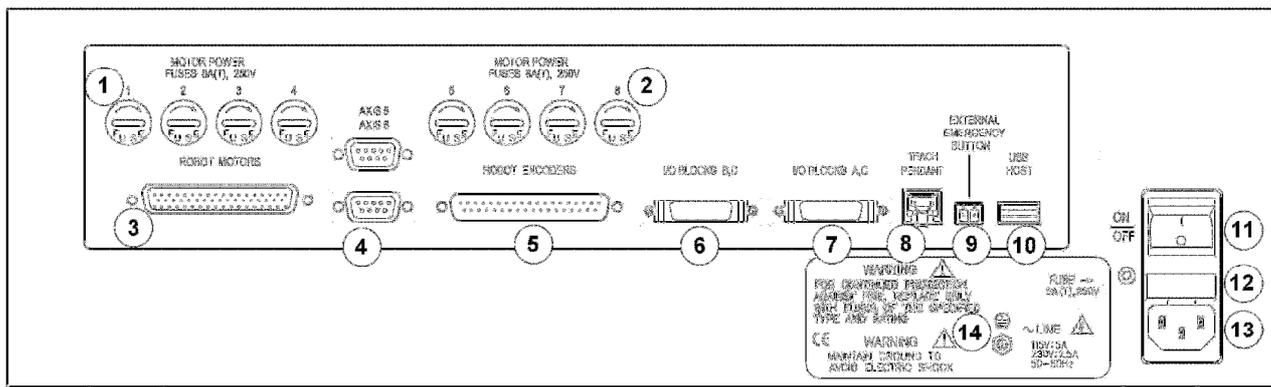

Figure 2-1: Controller USB PRO Back Panel
2 Emergency By-Pass Plugs	Installed in the Controller (at Teach Pendant Connector and External Emergency Button Connector [(8) and (9) in Figure 2-1])
The installation instructions in this chapter refer to Figure 2-1.
☞ *Ensure that the supplied voltage is suitable for the Controller's requirements. See specifications on the back panel of the Controller ((14) in Figure 2-1).*
1. Make sure the Controller power switch (11) is turned off.
2. Connect the AC power cable to the Controller (13) and to the AC power supply outlet.
3. Connect the USB cable to the USB Host Connector (10) on the Controller and to the USB Host Connector on the computer.
5. If you will *not* be using a Teach Pendant, connect the Emergency By-Pass plug into the Teach Pendant port (8).
1. Remove the By-Pass Plug from (8) in Figure 2-1, and connect the Teach Pendant cable.
Connect the by-pass plug to the Controller’s Teach Pendant Connector ((8) in Figure 2-1).
In addition to connecting I/Os through the terminals on the Controller front panel (Chapter 3), the I/O connectors ((6) and (7) in Figure 2-1) at the back of the Controller may be used to connect external I/O devices directly or by means of an I/O Interface Box.